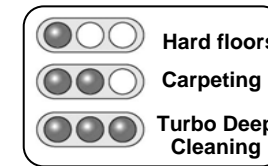

Fig. 8
4. To change the speed of the sweeper, press on the speed control button. As you press on it, the speed indicator light will change. If one light lights up, you have the low speed for hard floors; two lights, medium speed for carpeting; three lights, high speed for turbo deep cleaning. (Fig. 8)